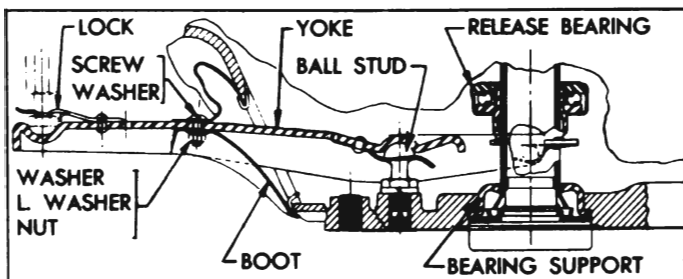

Figure 4-6—Clutch Release Yoke and Boot
2. Disconnect rod from clutch release yoke, unhook boot from opening in flywheel upper housing, and pull yoke outward to disengage it from ball stud. See figure 4-6.
2. Disconnect release rod from release yoke and remove yoke boot and release rod nut lock which are bolted to yoke. See figure 4-6.
8. Install boot and release rod nut lock on yoke (fig. 4-6), attach release rod to yoke, then adjust for clutch pedal lash of $\frac{3}{4}$ " (par. 4-4).